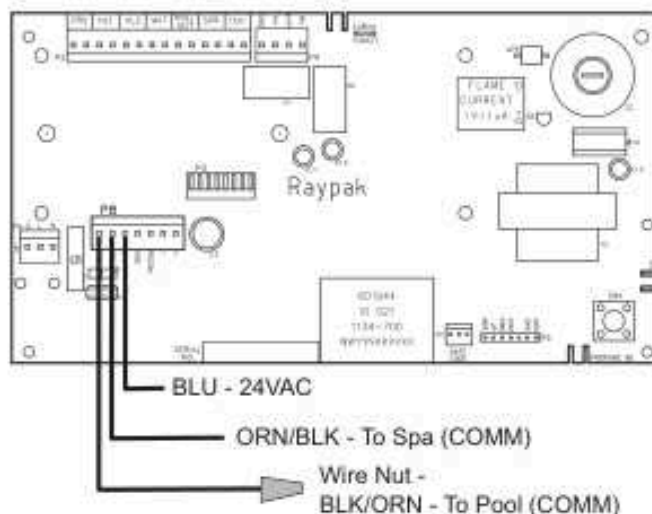

Figure 56. 2-Wire Remote Harness Installation on the P8 Connector of the Board
- Install the "7-Pin Remote Interface Harness" to the P8 connector and turn power "ON" to the heater. See Figure 56.